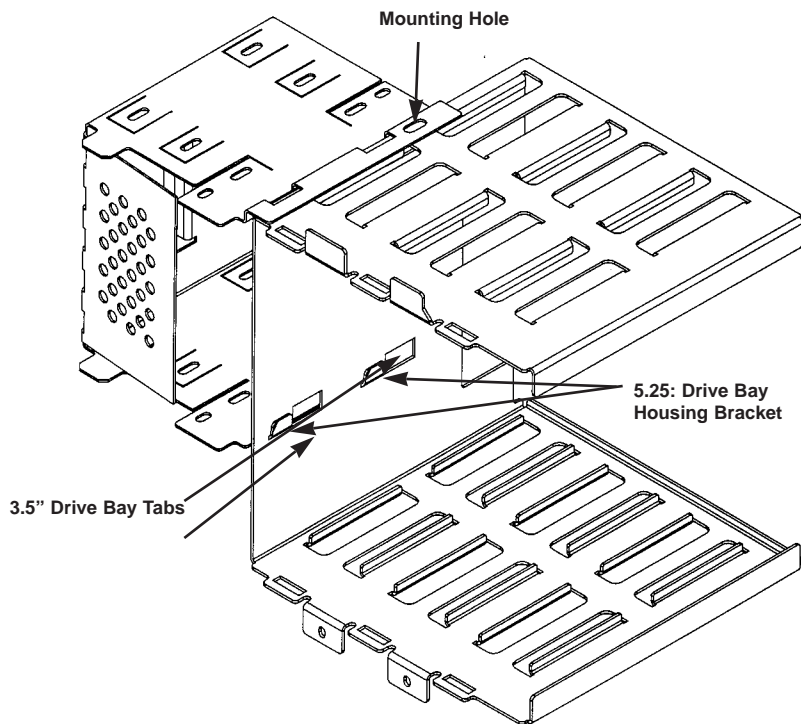

Figure 3-1: 3.5 and 5.25 Inch Drive Bays
- *Removing the 3.5 Inch Drive Bay (refer to figure 3-1):*
- ***Installing the 3.5 Inch Drive Bay (refer to figure 3-1):***